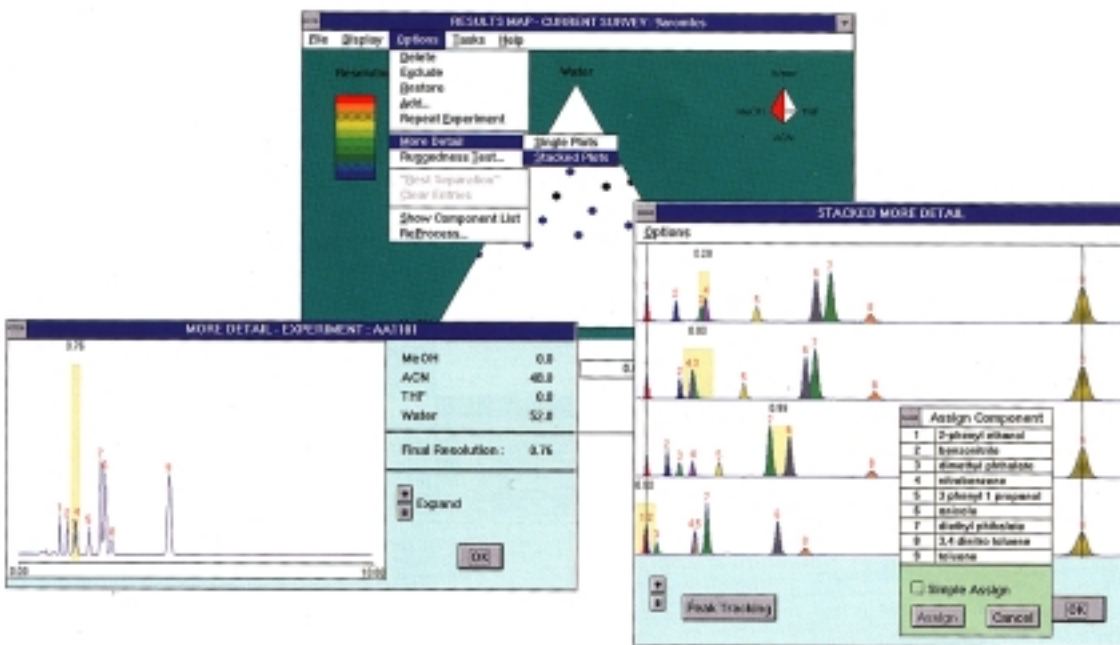

Figure 6. The stacked plot allows you to track trends and identify the critical peak separations vs. changes in solvent.
**Stacked-plot viewing and peak matching to help visualize chromatographic trends.** Any chromatogram, a selected group of chromatograms, or a linear row of experiments in the survey can be viewed via mouse clicks. The chromatograms can be displayed either as a series of plots, or in a stacked-plot format, as shown in Figure 6. In stacked plots integrated peaks are positioned between two vertical markers and are displayed *independent of time*. This provides
the best means for visualizing the relative migration of peaks as solvent composition and strength are changed. The stacked plot in Figure 6 shows a row of survey experiments, which have been selected by the mouse and then viewed, as single or stacked chromatographic plots with the critical pair of each chromatogram highlighted. Viewed from the bottom of the screen, the movement of chromatographic peaks relative to one another can easily be observed as the strong solvent is changed from MeOH to ACN. The alignment of chromatographic peaks in a stacked plot can be adjusted for best visual comparison by dragging specific peaks to the left or right of the vertical marker with the mouse.